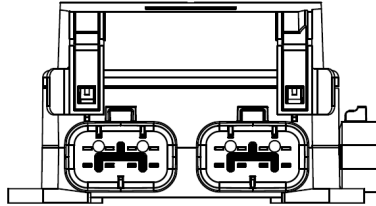

Figure 3. Recommended Mounting Orientation
- The optimal / recommended mounting orientation for all VEC is horizontal. Shown in Figure 3.